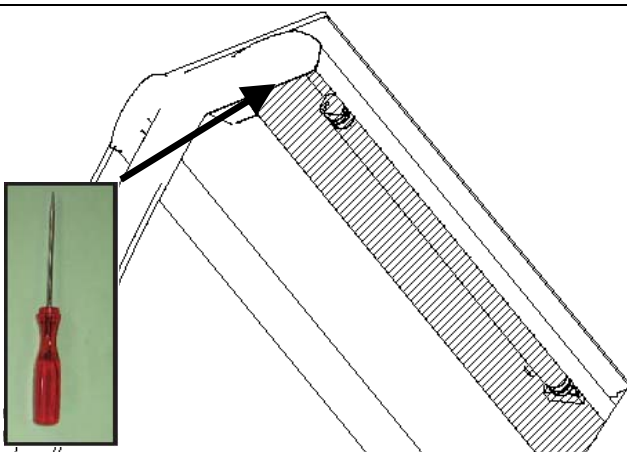

Fig. 1: removal point
- To remove the plastic cover, lever on the cover edge using a pointy tool (fig. 1).